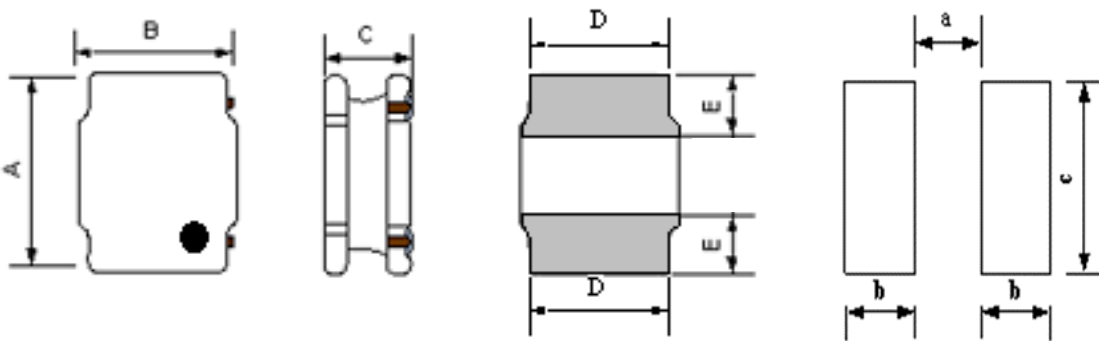
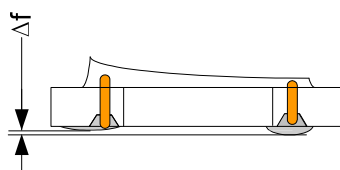

Fig. 4-1
Fig. 4-2
- 1) Dimensions and recommended PCB pattern for reflow soldering, please see **Fig. 4-1**, **Fig. 4-2** and **Table 4-1**.
| 7.2Resistance to Flexure        | No visible mechanical damage. <p style="text-align: center;">Fig. 7.2-1</p>  | ① Solder the chip to the test jig (glass epoxy board) using eutectic solder. Then apply a force in the direction shown as Fig. 7.2-1.② Flexure: 2mm③ Pressurizing Speed: 0.5mm/sec④ Keep time: 30±1s⑤ Test board size: 100X40X1.0⑥ Land dimension:⑦ Please see Fig. 4-1   |